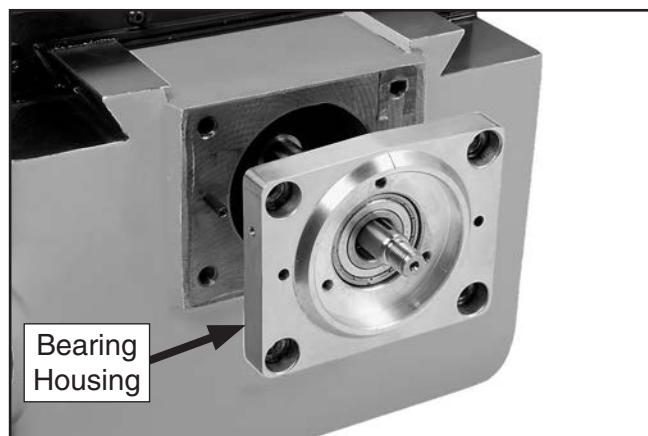

Figure 67. Y-axis bearing housing.
4. Remove the four cap screws from the bearing housing, then slide it off the leadscrew (see **Figure 67**).